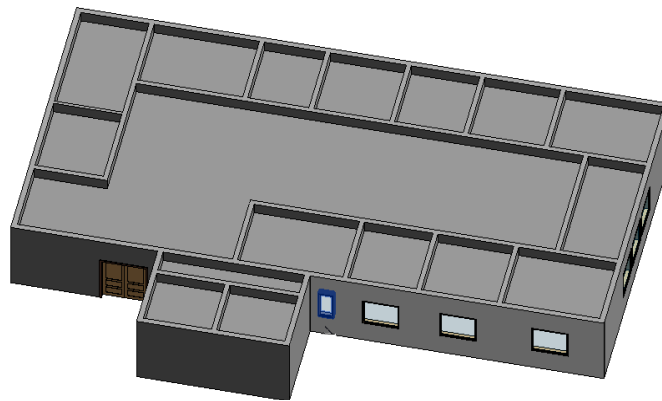

Figure 3-91 Displaying the ceiling of the *Office Building II* project
7. Choose the **Default 3D View** tool from the **3D View** drop-down of the **Create** panel in the **View** tab; the 3D view of the project with the ceiling created is displayed. You can move the cursor over the ceiling of the room to highlight and display it, as shown in Figure 3-91.